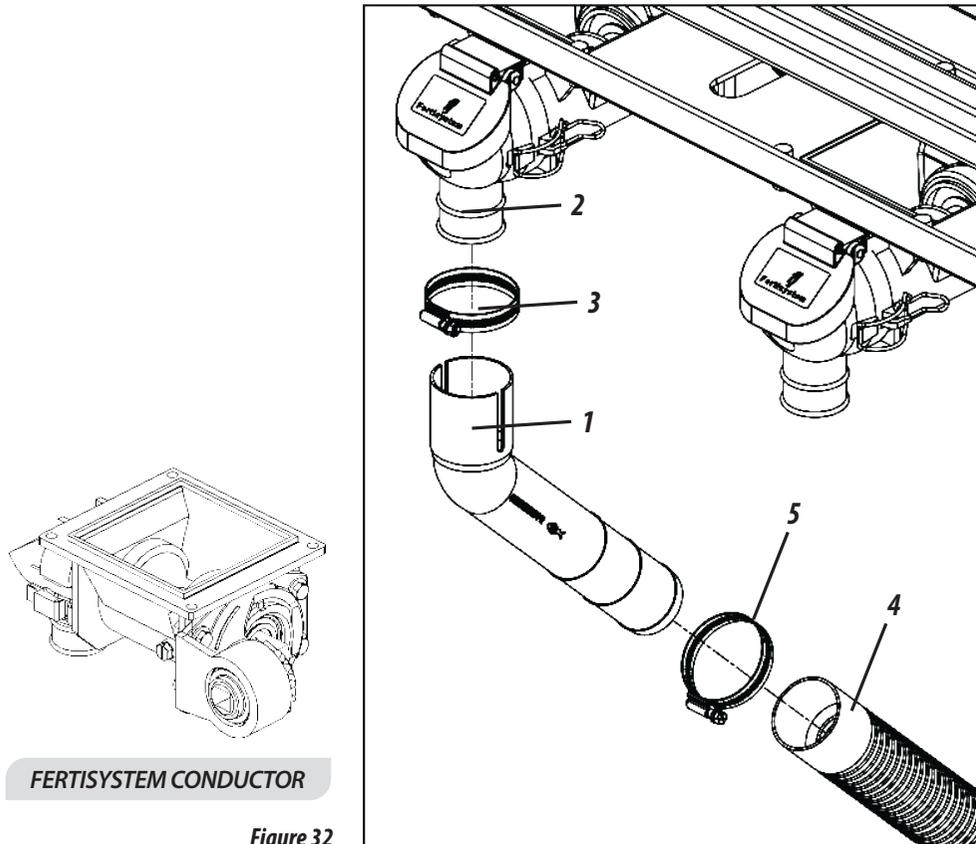

Figure 32
POLYETHYLENE FERTILIZER HOPPER (FIGURES 32/33)
- To carry the fertilizer from the distributor to the ground, fit the spouts in degree (1) to the fertisystem conductor outlets (2) through the clips (3). Then place the hoses (4) on the spouts in degree (1) through the clips (5), **as shown in Figure 32.**